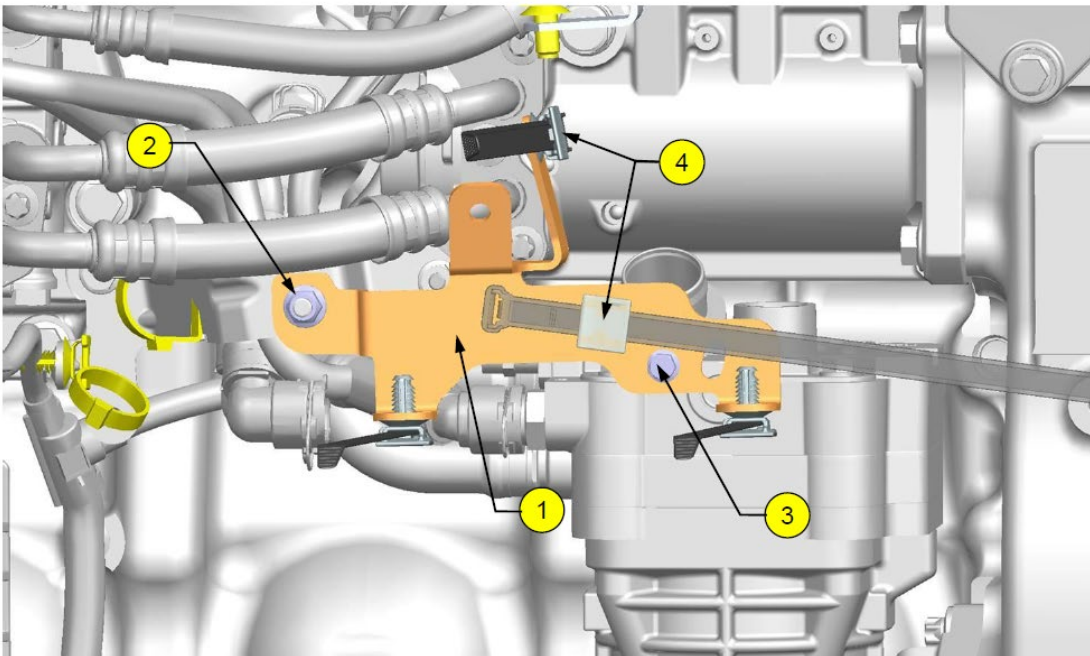

Fig. 4, Mounting Bracket and Fasteners
6. Remove the M8 and M6 hex nuts that attach the mounting bracket shown in **Fig. 4**, items 2 and 3, and remove the bracket.